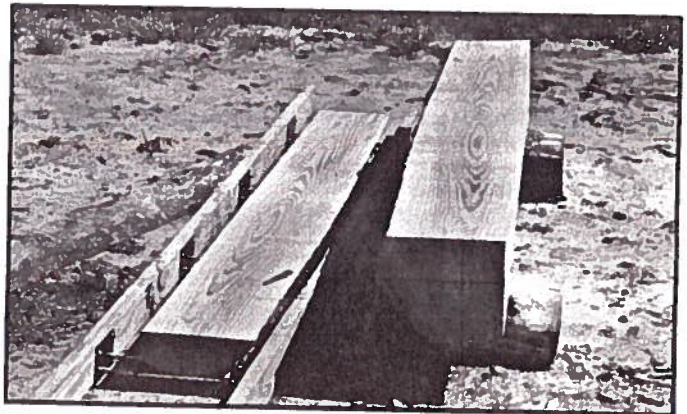

Fig. 55
13. Fig. 55, shows the "squared" log which can be cut into boards of any desired dimension at the field site.